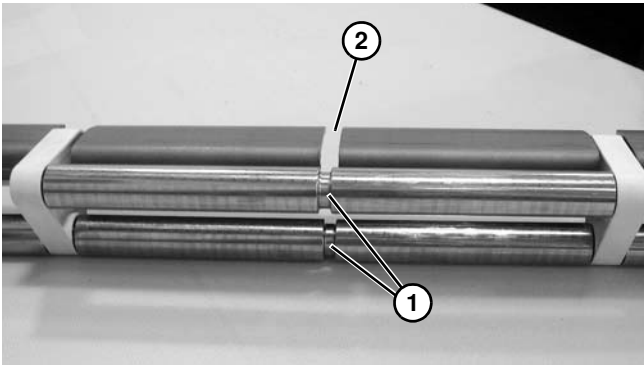

Figure 137
During reassembly, make certain that spindles with center mark (**Figure 137, item 1**) are aligned with cutout (**Figure 137, item 2**) in crossmember bracket.